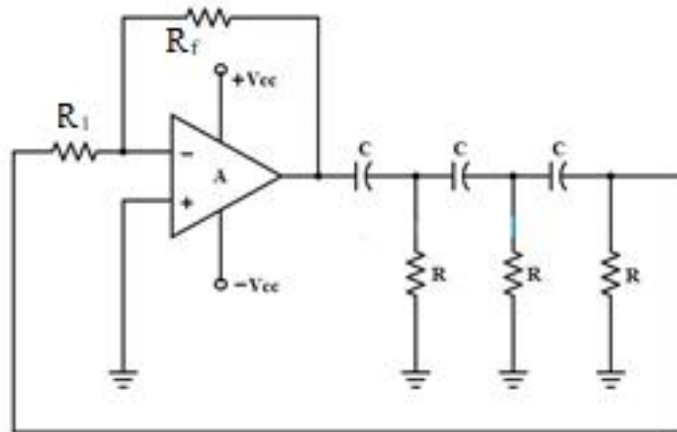

Fig. 7.1: RC Phase shift Oscillator
1. What happens if Zener diode of 6.2V is connected back to back across the output terminal in Fig. 7.1?
2. What happens if the input is given to the non-inverting terminal and inverting terminal is grounded in Fig. 7.1? Draw the waveforms.
3. What is the significance of connecting two diodes in opposite direction in parallel between the inverting and non-inverting terminals in Fig. 7.1, Fig. 7.2?
1. Rig up the circuit as shown in the Fig. 7.1.